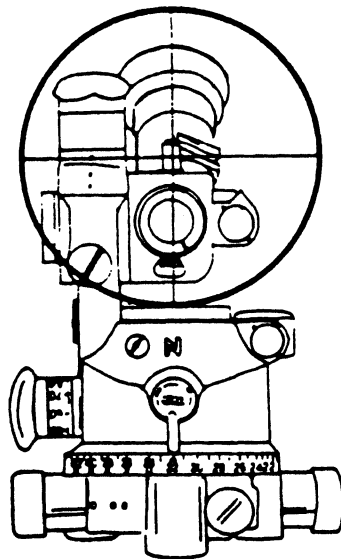

Fig 4-11. Mortar sight referred to aiming circle.
- (1) The aiming circle operator will mount and level the aiming circle at a point from which he can observe the sights of all the mortars in the platoon (normally the left front or left rear of the platoon).
- (2) The aiming circle operator will indicate the general direction of fire by pointing. Once he has done this, the mortar crews will mount the mortars in that direction and level them up.
- (3) After the mortars are mounted, the aiming circle operator will begin to lay the mortars using the aiming circle.
- (b) At this time the gunners will refer their sights to the aiming circle and bisect the vertical crossline of the sight on the lens or reflector of the aiming circle (fig 4-11). The elevation will remain on 1100. Both the elevation bubble and crosslevel bubble must be level during every phase of laying with the aiming circle.